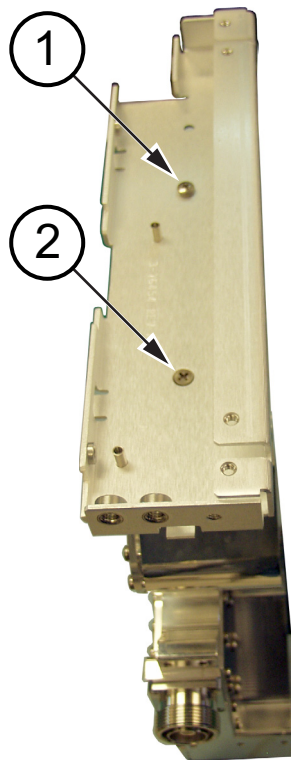

Figure 5-38. Left Filter Bracket
2. Turn the filter on its side and attach the left filter bracket. Use 1 screw, size M4, 8 mm, pan head (item 1 in Figure 5-38).
3. If the model is MW82119B-0700, then an extra flat head screw is used, size M4, 10 mm, flat head (item 2 in Figure 5-38).